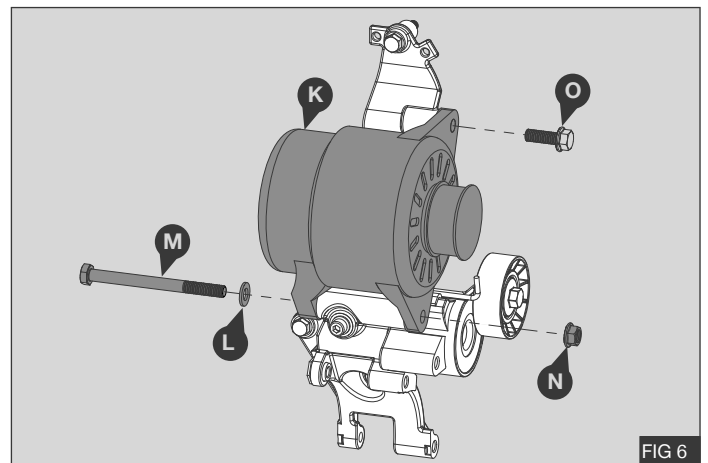

FIG 6
6. Secure the alternator (K) to the compressor mount bracket (1) using the original bolts (M) and (N) with washer (L) and nut (O) - Fig 6
7. Torque bolts (M) and (N) to 48 Nm / 35 Lb ft